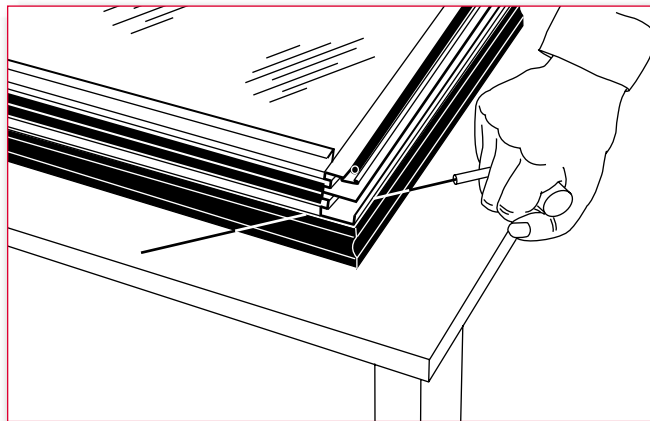
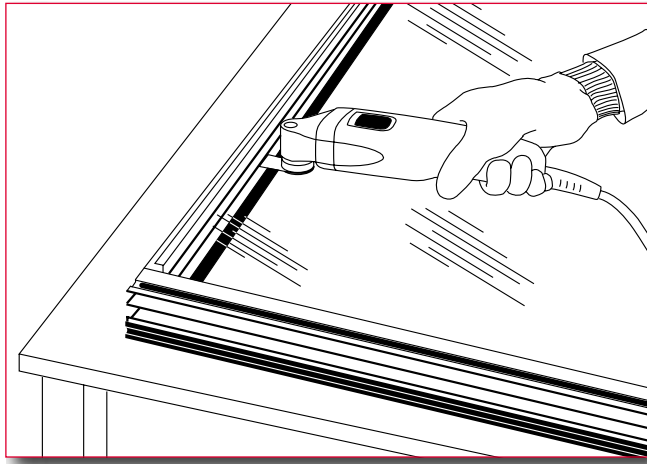

Fig. 17: Cutting through tape with “Piano Wire”
Fig. 18: Automatic sealant cutter
1. Cutting through the 3M™ VHB™ Structural Glazing Tape bondline is the most effective way of separating the glass lite from the structural frame. This will require special tools such as piano wire (Fig. 17), an automatic sealant cutter (Fig. 18) or a sharp blade to cut through the 3M™ VHB™ Structural Glazing Tape. Use a lubricant such as liquid soap to quicken cutting through the tape. Care should be exercised to avoid damaging of the frame surface or the glass if they are to be used in the re-glazed unit.